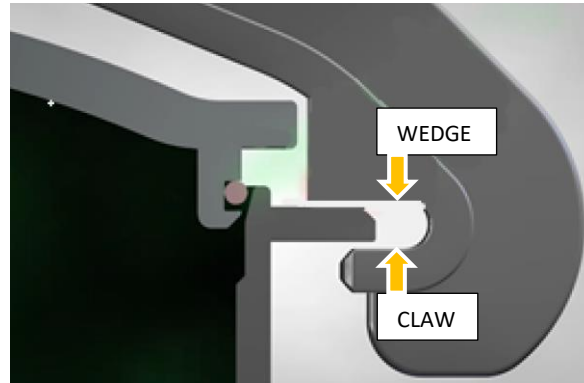

Figure 5 - Strongback in Neutral Position
continue to turn until the spring-loaded pin of the T-handle releases and fully engages the corresponding hole in the nozzle flange. This is called the **closed-lock-position**. If the strongback does not freely move from one position to another it is due to contact between the surfaces of the strongback arms and the nozzle flange. To eliminate this contact, turn the ram so that the nozzle flange is equally positioned between the strongback “claws” and “wedges” (See figure 5).
- iii. Lift the T-handle and rotate the strongback counter-clockwise. Release the T-handle and continue to turn until the spring-loaded pin of the T-handle releases and fully engages the corresponding hole in the nozzle flange. The strongback is now in the **open-lock-position**. If the strongback does not freely move from one position to another it is due to contact between the surfaces of the strongback arms and the nozzle flange. To eliminate this contact, turn the ram so that the nozzle flange is equally positioned between the strongback claws and wedges (See figure 5). Note: The claws bear up against the bottom side of the nozzle flange when closing the cover assembly. The wedges bear down against the upper side of the nozzle flange when opening the cover assembly.